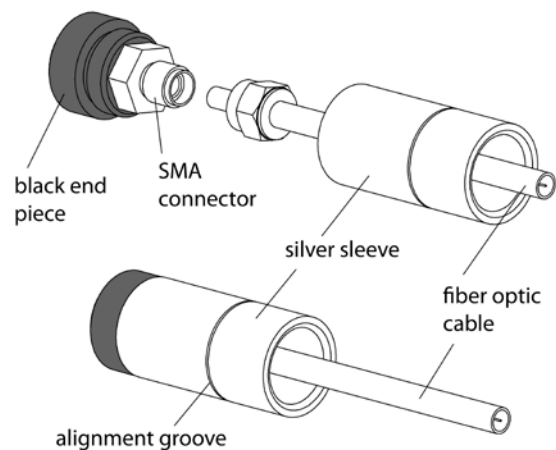

Figure 4 - Attaching the fiber optic to the SMA connector
5. Now, unscrew the silver sleeve from the black end piece revealing the SMA connector (**Figure 4**).